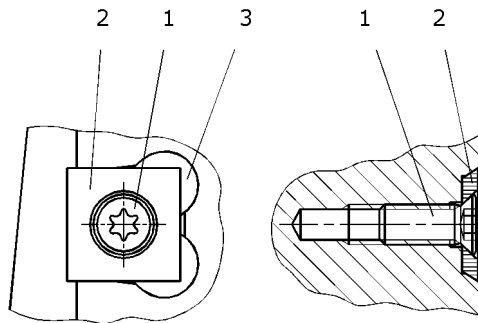
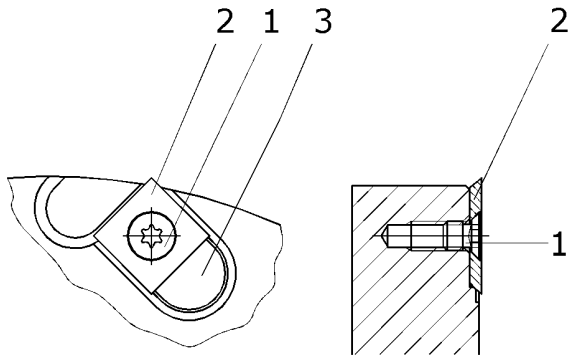

Fig.2
Fig.3
Spur knives are distinguished between the circumference cutting type "CASTOR" (see Fig. 2) and the end-grain cutting types for rebate cutting (see Fig. 3 and 4).
(See Fig. 2)
(See Fig. 3 and 4)
2. Loosen the screw (1) with the Torx key and completely remove it from the knife seat.
3. Remove the spur knife (2) from the knife seat.
4. Clean the knife seat (3) and all of the corresponding components that go with it. Be sure all surfaces are free from dirt, oil, grease and water.
5. Insert precisely the reversed or new spur knife into the knife seat (see Fig. 3 and 4).